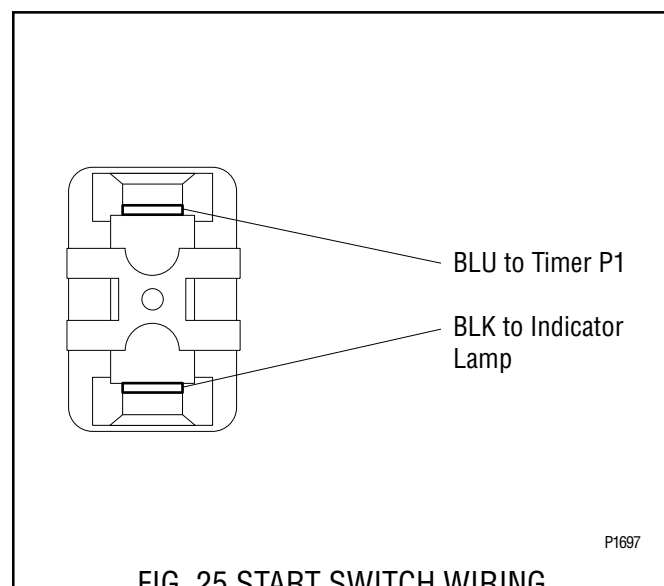

FIG. 25 START SWITCH WIRING
4. Refer to FIG. 25 when reconnecting the wires.